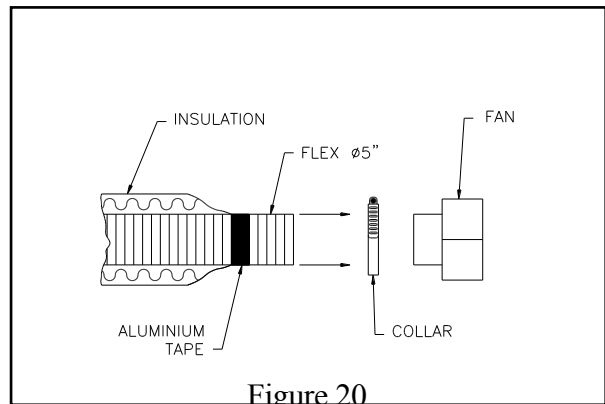

Figure 20
4. Attach the flexible pipe to the fan, using the collars (figure 20).